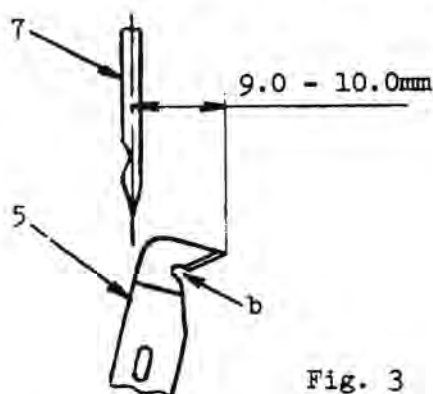

Fig. 3
Adjust cutting blade (5) so that the distance between point of cutting blade and center of needle will be 9.0 - 10.0mm as shown in Fig. 3 when needle thread cutting blade pawl (2) reaches the highest point of the cam plate (3) (or when looper bracket (1) begins to rotate after completion of a buttonhole).